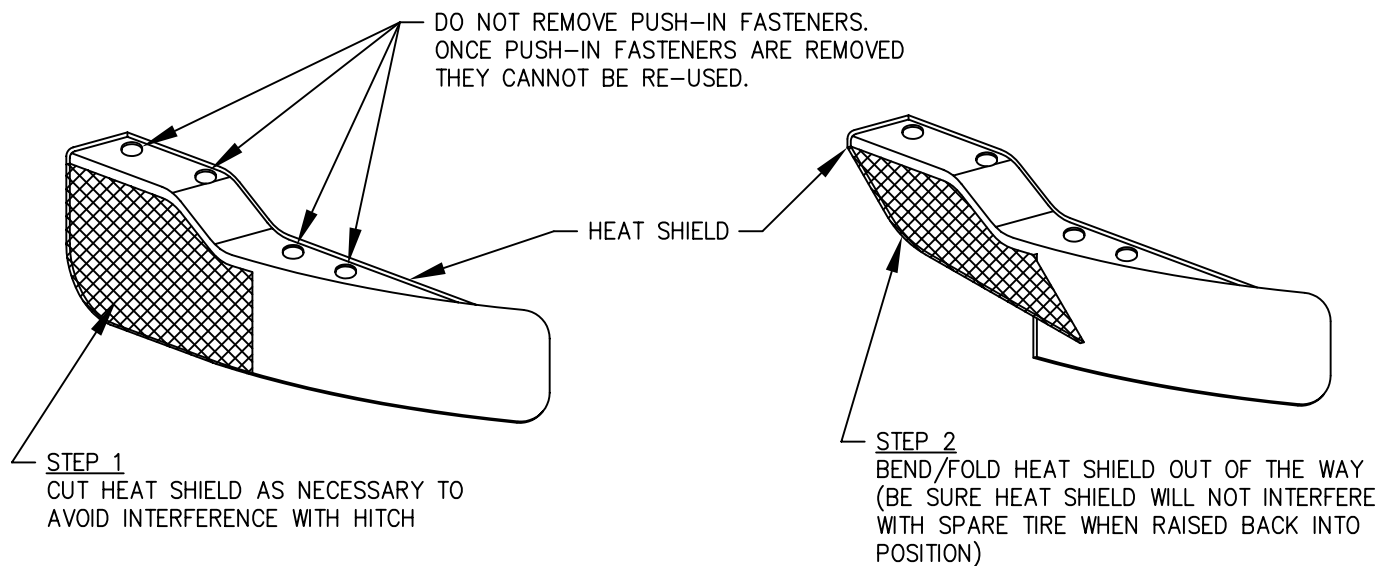

FIGURE 3
5. MODIFY HEAT SHIELDS AS SHOWN IN FIGURE 3.